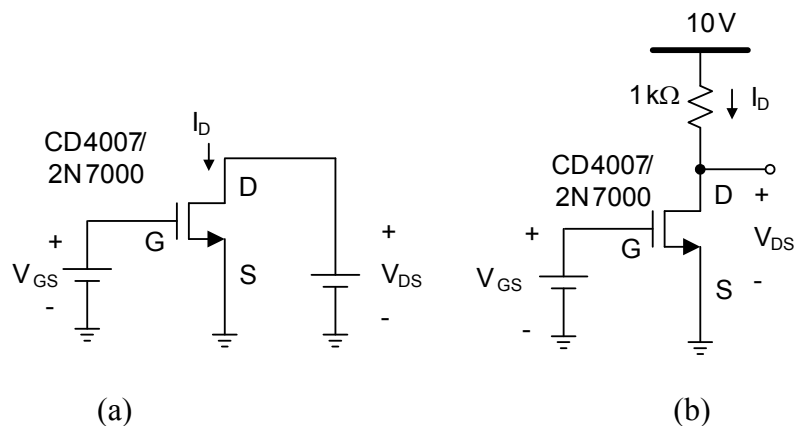
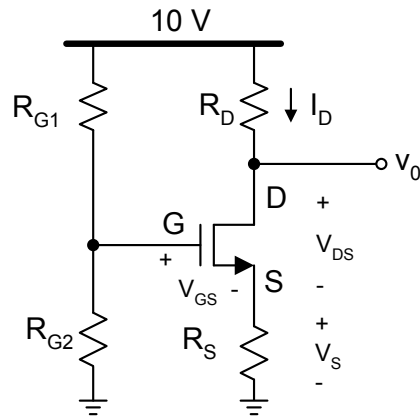

Fig. 2. (a) PSpice simulations setup (b) Schematic used for measuring the n-channel MOS transistor characteristics and small signal parameters.
Fig. 3. MOSFET based amplifier: circuit 2
A simple biasing scheme for the n-channel MOSFET is shown in Fig. 2. Use  $V_{DD} = 10$  V. Find  $\beta_n$ ,  $\lambda_n$  and  $V_{tn}$ . For PSpice simulations, your TA or instructor will provide you with the necessary model files and a guide on adding them to PSpice.
1. Set up your circuit in PSpice as shown in Fig. 2(a) using first the CD4007 MOS transistor.
Unfortunately, the biasing scheme of Fig. 2 is very sensitive to changes in the MOSFET characteristics because there is no means of stabilizing the biasing point. A better biasing scheme is shown in Fig. 3. In this circuit, an increase in the drain current causes an increase in the source voltage. If the gate voltage is constant, then the value of  $V_{GS}$  decreases opposing the original increase in drain current causing the bias point to be stabilized. There is an inherent feedback mechanism behind the source resistance  $R_s$ .
- Construct the circuit shown in Fig. 3 in PSpice using the CD4007 MOSFET. Using the parameters found in the previous steps, find the resistors such that the transistor is biased at  $I_D = 1 \text{ mA}$  and  $V_{DS} = 2 \text{ V}$ , and  $R_D/R_S = 10$ . The parallel combination of  $R_{G1}$  and  $R_{G2}$  should be greater than  $100 \text{ k}\Omega$ . For your calculations you can ignore  $\lambda_n$ . Simulate your results. Repeat for the 2N7000 MOSFET with  $I_D = 20 \text{ mA}$  and keep all other requirements the same.
- Using the CD4007, connect the circuit of Fig. 2(b); the  $1 \text{ k}\Omega$  resistor will limit  $I_D$  to  $10 \text{ mA}$  and keep the  $V_{DS}$  voltage greater than or equal to  $V_{GS}$  for a wide range. Sweep  $V_{GS}$  from  $0 \text{ V}$  up to a voltage such that  $I_D = 5 \text{ mA}$ . Record the results for at least 20 different values with emphasis around the expected  $V_{tn}$ . Plot the results in the  $I_D$ - $V_{GS}$  plane.
- Using the CD4007, connect the circuit of Fig. 3 and use the values obtained in the pre-lab. Measure the operating point ( $I_D$ ,  $V_S$  and  $V_D$ ) and compare these values with PSpice results. Comment on any differences;
3. Compare the  $I_D$  and  $V_S$  that were obtained from the circuit in Fig. 3 to the values that were obtained using the circuit in Fig. 2(b).